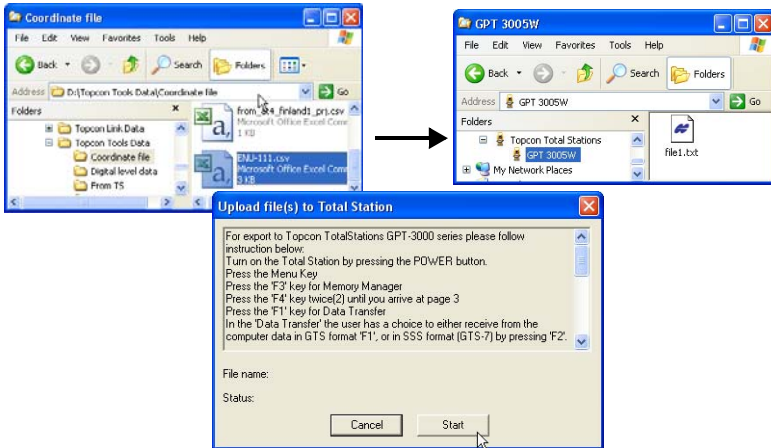

Figure 8-12. Start of Export a Coordinate File to the Total Station
- Follow all the steps given in the **Upload File(s) to Total Station** dialog box to prepare the Total Station for exporting file (Figure 8-12).
7. When ready to send the file, press **F3** for “yes” at the Total Station. Click **Start** in the *Upload File(s) to Total Station* dialog box (Figure 8-12). The upload process begins.